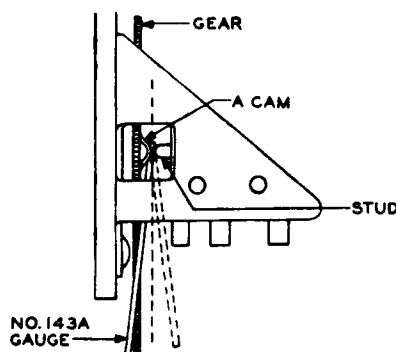

Fig. 24 - Method of Adjusting "A" Cam
- (1) To adjust the position of the "A" cam, loosen the "A" and "C" cam clamping screws with the No. 551A wrench. Rotate the gear, as required, to obtain access to the setscrews. With the gear rotated from the normal position, insert one end of the No. 143A gauge between the "A" cam and the stud of the A contact spring assemblies. Allow the gear to return to its normal position. Then without moving the gear, insert the KS-6854 screwdriver into the slot at the front of the gear. Move the adjusting lever of the "A" cam up or down, as required, with the screwdriver. Remove the screwdriver. Check the adjustment as follows. Insert first one end of the No. 143A gauge and then the other end between the "A" cam and the stud. The cam is correctly located, if regardless of the end inserted, the near end of the gauge lies approximately the same distance from but on opposite sides of a line, which passes through the end of the stud on the A contact spring assembly and parallel to the
➤ gear wheel as shown in Fig. 24. Tighten the "C" cam clamping screw, located just back of the slot in the gear. Rotate the gear and tighten the "A" cam clamping screw. Adjust the "C" cam as outlined in (2).